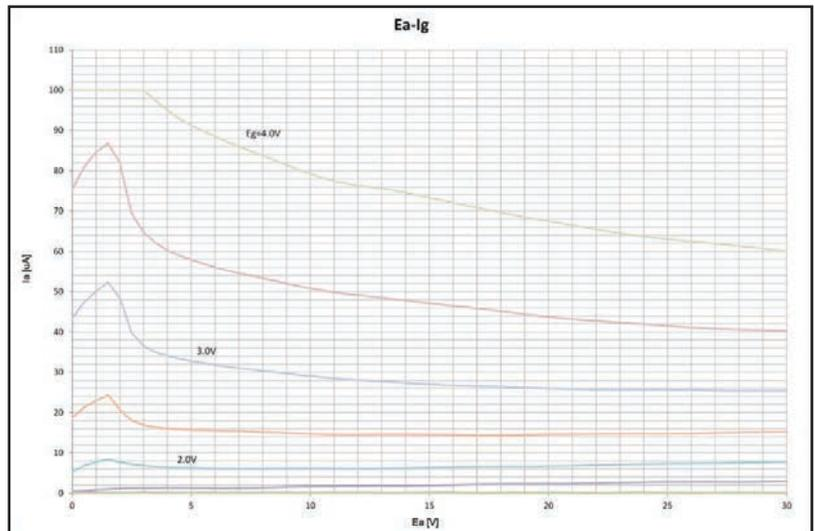

Figure 2: The grid current is significant when compared with the low plate current.
**Figure 2** shows the grid current. You can see that the grid current, although only tens of microamps, is significant when compared with the low plate current.